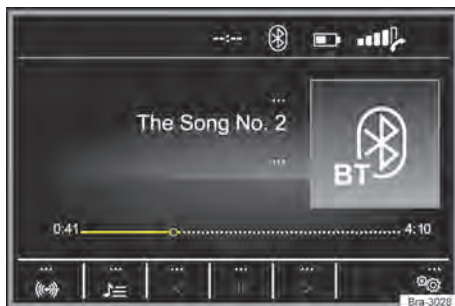
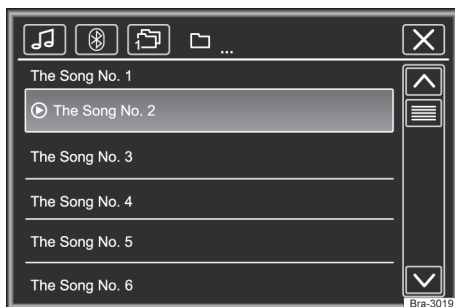

Fig. 127 Media main menu.
Fig. 128 Radio operation: station list.
– Press the **MEDIA** button to open the **MEDIA** main menu → Fig. 127.
Currently played media source is shown in the lower left function button pad → Fig. 127.
Caption for → Fig. 127 and → Fig. 128: